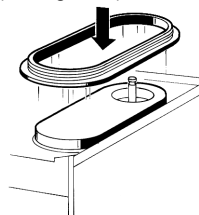

figure 7
**4** Fit the bowl gasket to the evaporator. Note: the largest brim of the gasket must face against the drip plate (see figure 7).